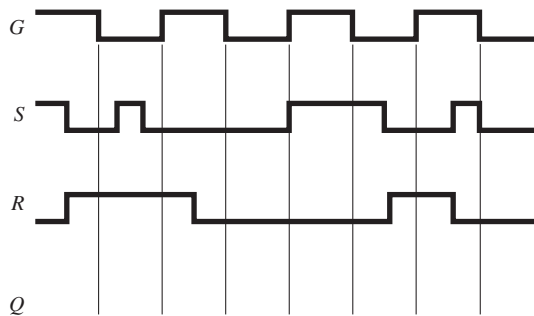

Figure P2
2. Sketch the *Q* output waveform for a gated *S-R* flip-flop (Figure 8), given the inputs at *S*, *R*, and *G* shown in Figure P2.